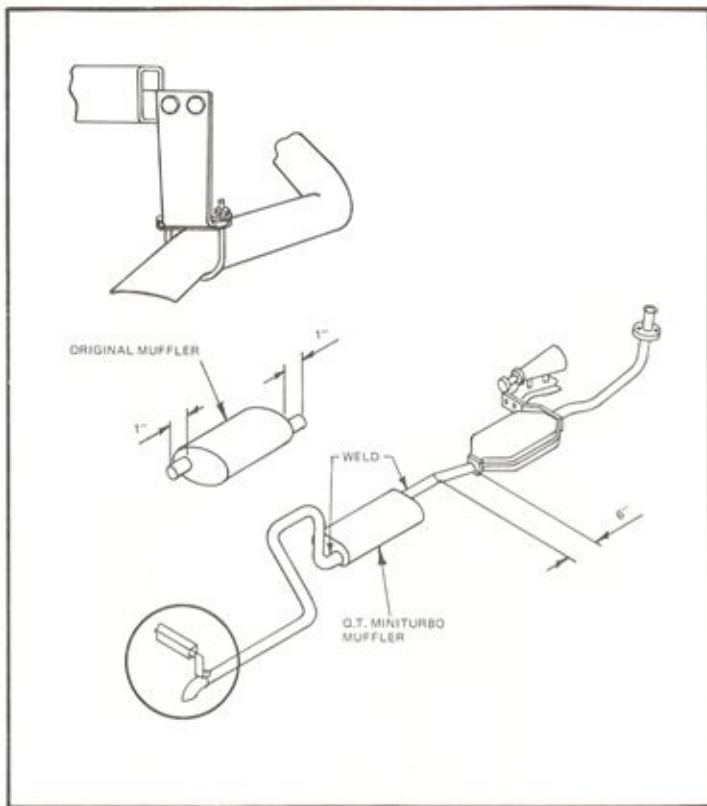

Figure 27
- The rear of the tail pipe is suspended from a strap type hanger (1 3/4" pipe). Loosely attach to tail pipe and find best position for securing hanger to frame. Bolt using 1/4 x 1" bolt with flat washer, lock washer and nut. Tighten clamp. (Figure 27)